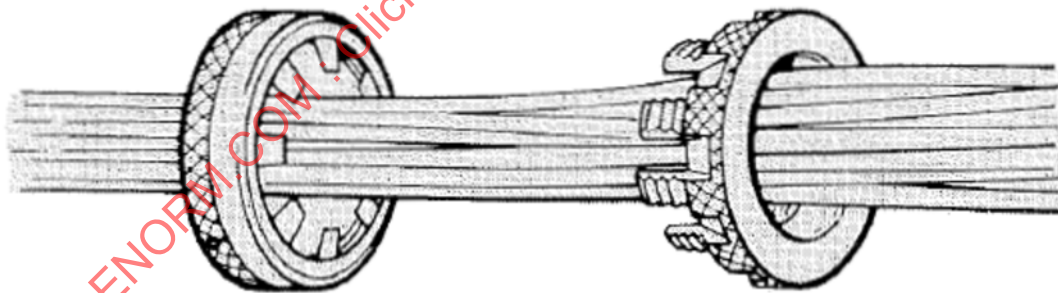

FIGURE 2 - STEP 1 OF ASSEMBLY INSTRUCTIONS
- PLACE TERMINATION AND GROUND RING ON WIRE BUNDLE OR CABLE WITH CASTELLATED (SLOTTED) FACE OF BODY TOWARD TERMINATION END OF CABLE (SEE FIGURE 2, STEP 1).